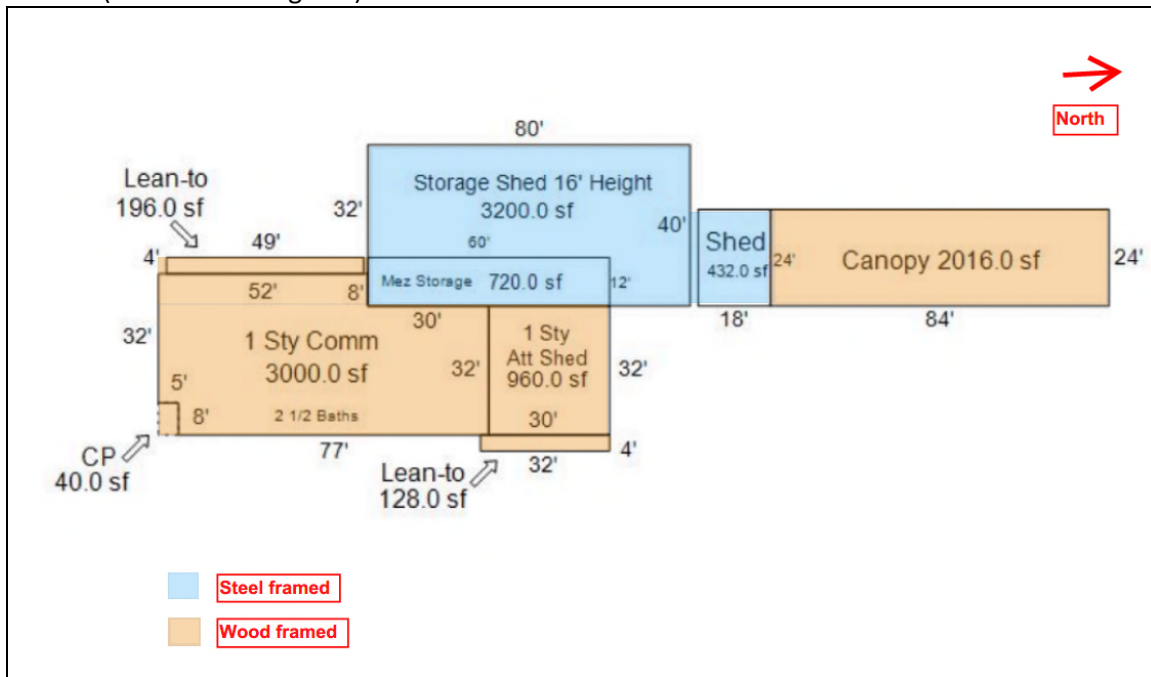

Figure 1: Floorplan of Subject Building (Floorplan from the Town of Stowe Vermont Assessor's Website)
- The main two-story volume of the building was steel framed and had a footprint measuring approximately 4,000 square feet (sf) according to the floorplan provided on the Town of Stowe, VT assessor’s website. Multiple wood framed additions to the steel framed original building had been constructed over the years. The additions consisted of an additional wood framed footprint of approximately 4,400 sf of enclosed commercial space and 2,000 sf of covered open air storage space (Figure 1 and Photo 1). According to the Stowe assessor’s website, the building was constructed in 1986.